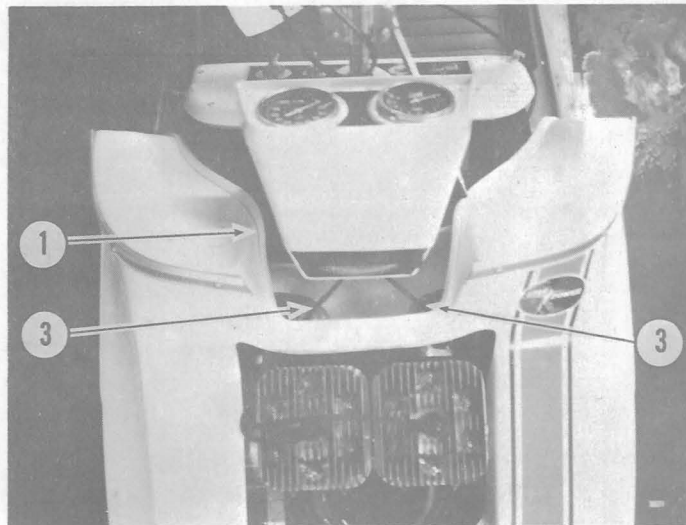

Figure 2
- 1.) Remove Jiffy trim from hood. See No. 1 in Figure 2.
- 4.) After this operation, the carburetor and cables should appear as shown in No. 3 in Figure 2.